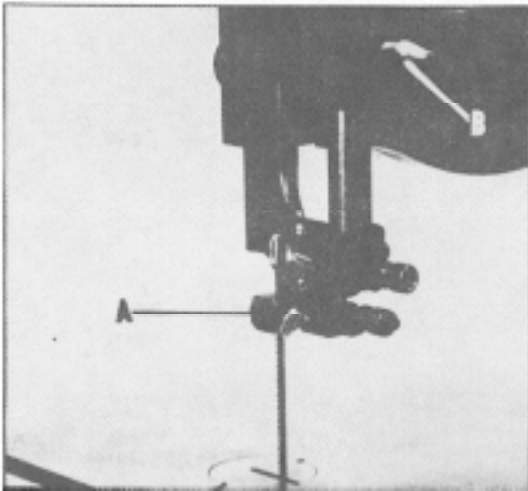

Fig. 15
The upper blade guide assembly (A) Fig. 15, should always be set as close as possible to the top surface of the material being cut by loosening thumbscrew (B) and moving the guide assembly (A) to the desired position.